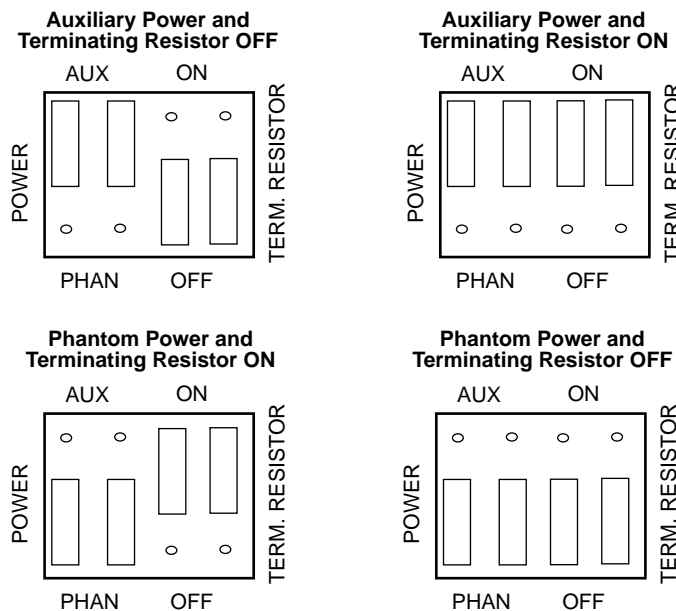

FIGURE 7-4. Settings for the DEFINITY Communications System
1. Locate the terminating resistor jumpers by sliding the cover downward (covering the Line jack and Adjunct jack) until the power and terminating resistor jumpers are visible. Verify the jumper settings for your given configuration. (See Figure 7-4.)